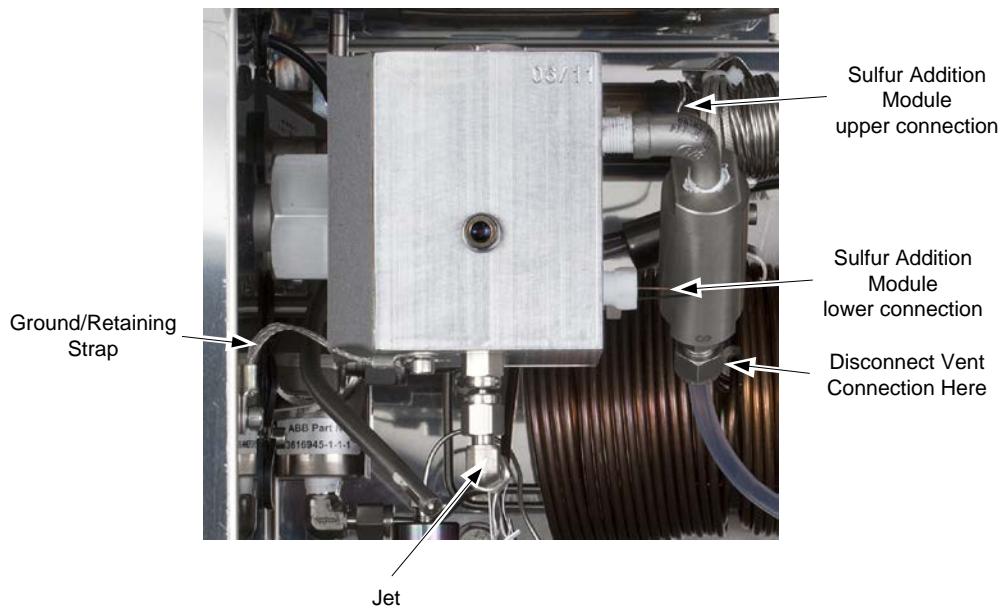

Fig. 7.3. Burner Block
9. Disconnect the sample line from the Burner Block (see Figure 7.3).